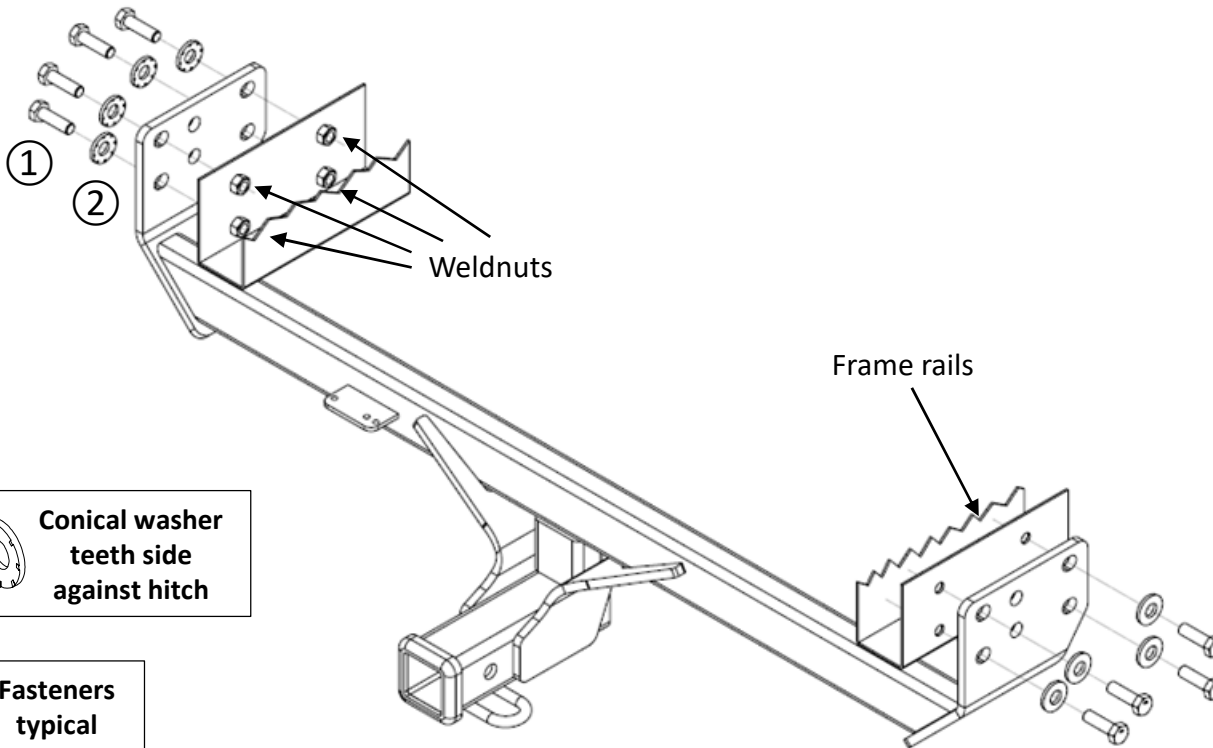

Figure 1
- Install hitch:** Using channellock, slightly bend the end of rod located behind end panel outward, both sides, see Figure 2. Using wire brush, clean the weldnuts behind foam pads removed in step 3. Raise the hitch into position and align it with weldnut location. Loosely install M12 bolts ① and 1/2" conical washers ②, see Figure 1.
4. Install hitch: Using channellock, slightly bend the end of rod located behind end panel outward, both sides, see Figure 2. Using wire brush, clean the weldnuts behind foam pads removed in step 3. Raise the hitch into position and align it with weldnut location. Loosely install M12 bolts (1) and ½" conical washers (2), see Figure 1.